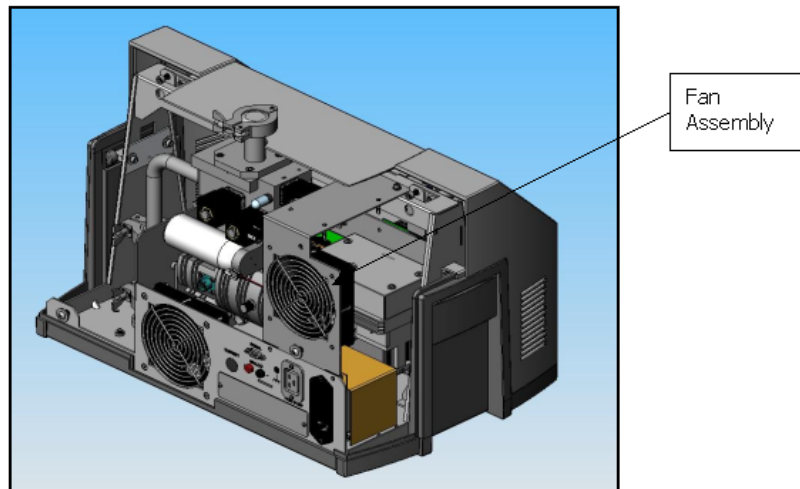

Figure 2: Fan Assembly
5. Disconnect the fan cable and remove the fan assembly by unfastening two wing nuts and one M4 socket head cap screw (Figure 2: Fan Assembly).
26. Attach the fan assembly (Figure 2: Fan Assembly) by fastening two wing nuts and one M4 socket head cap screw. Then connect the fan cable to the unit.